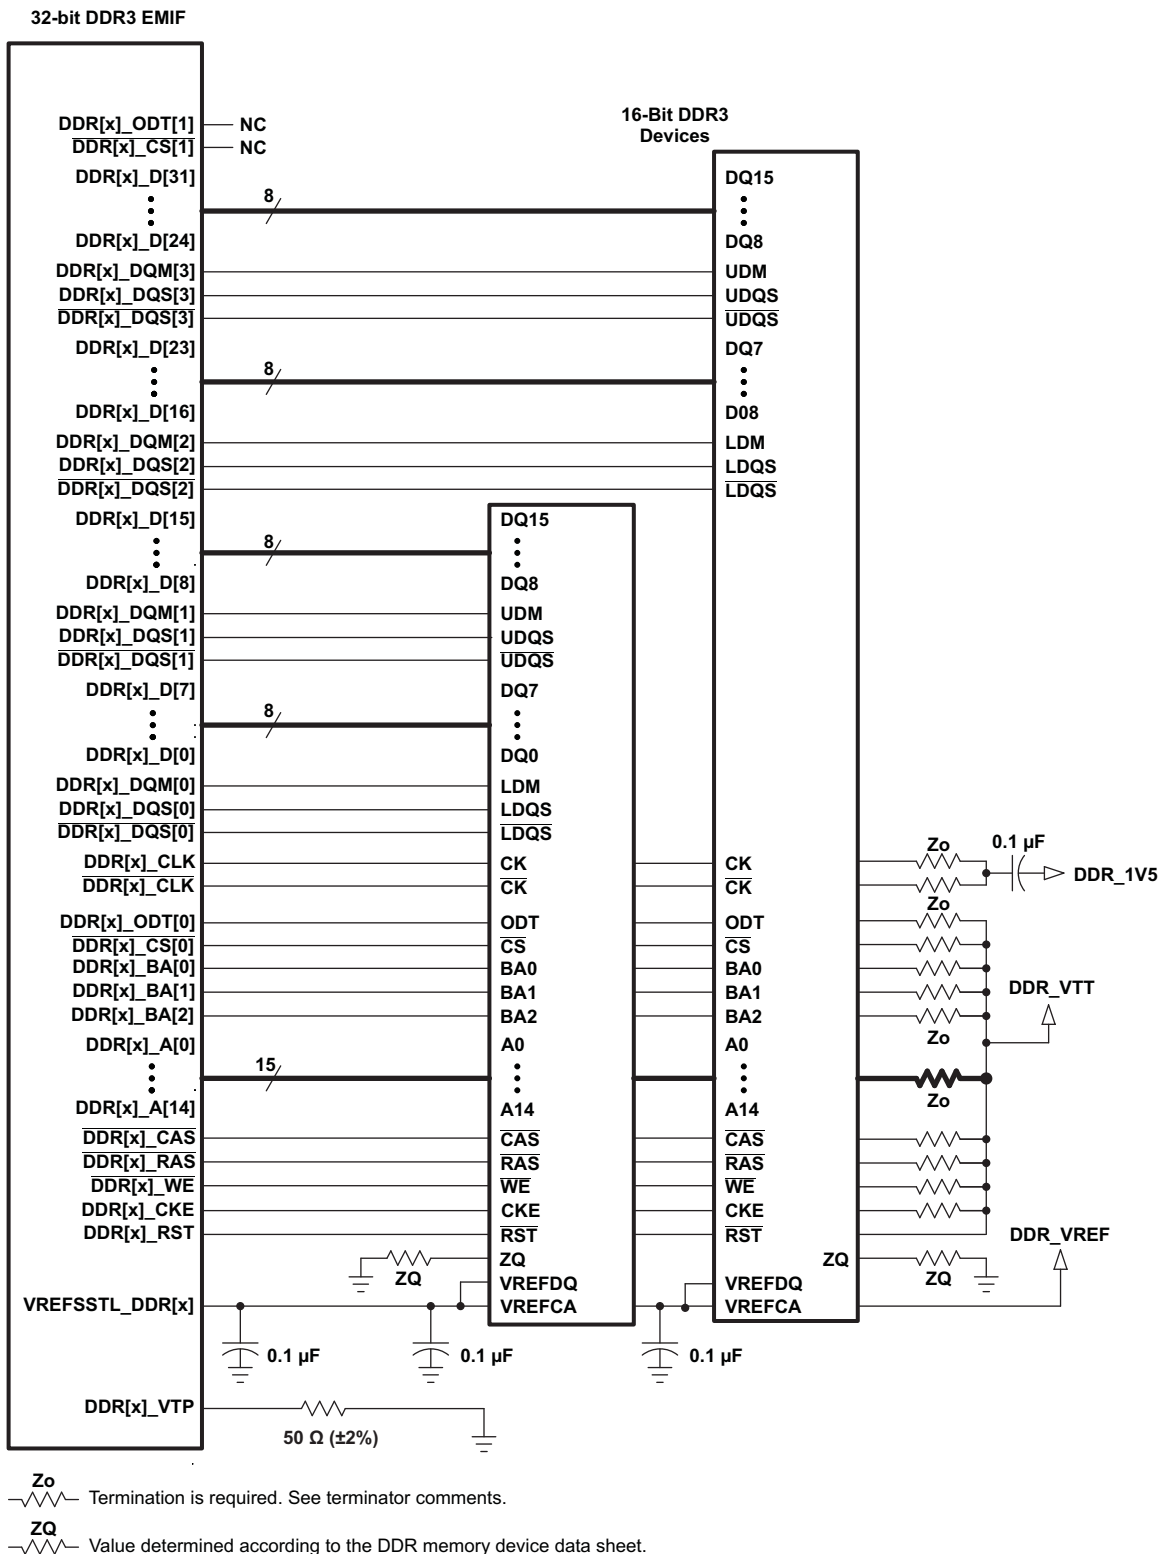
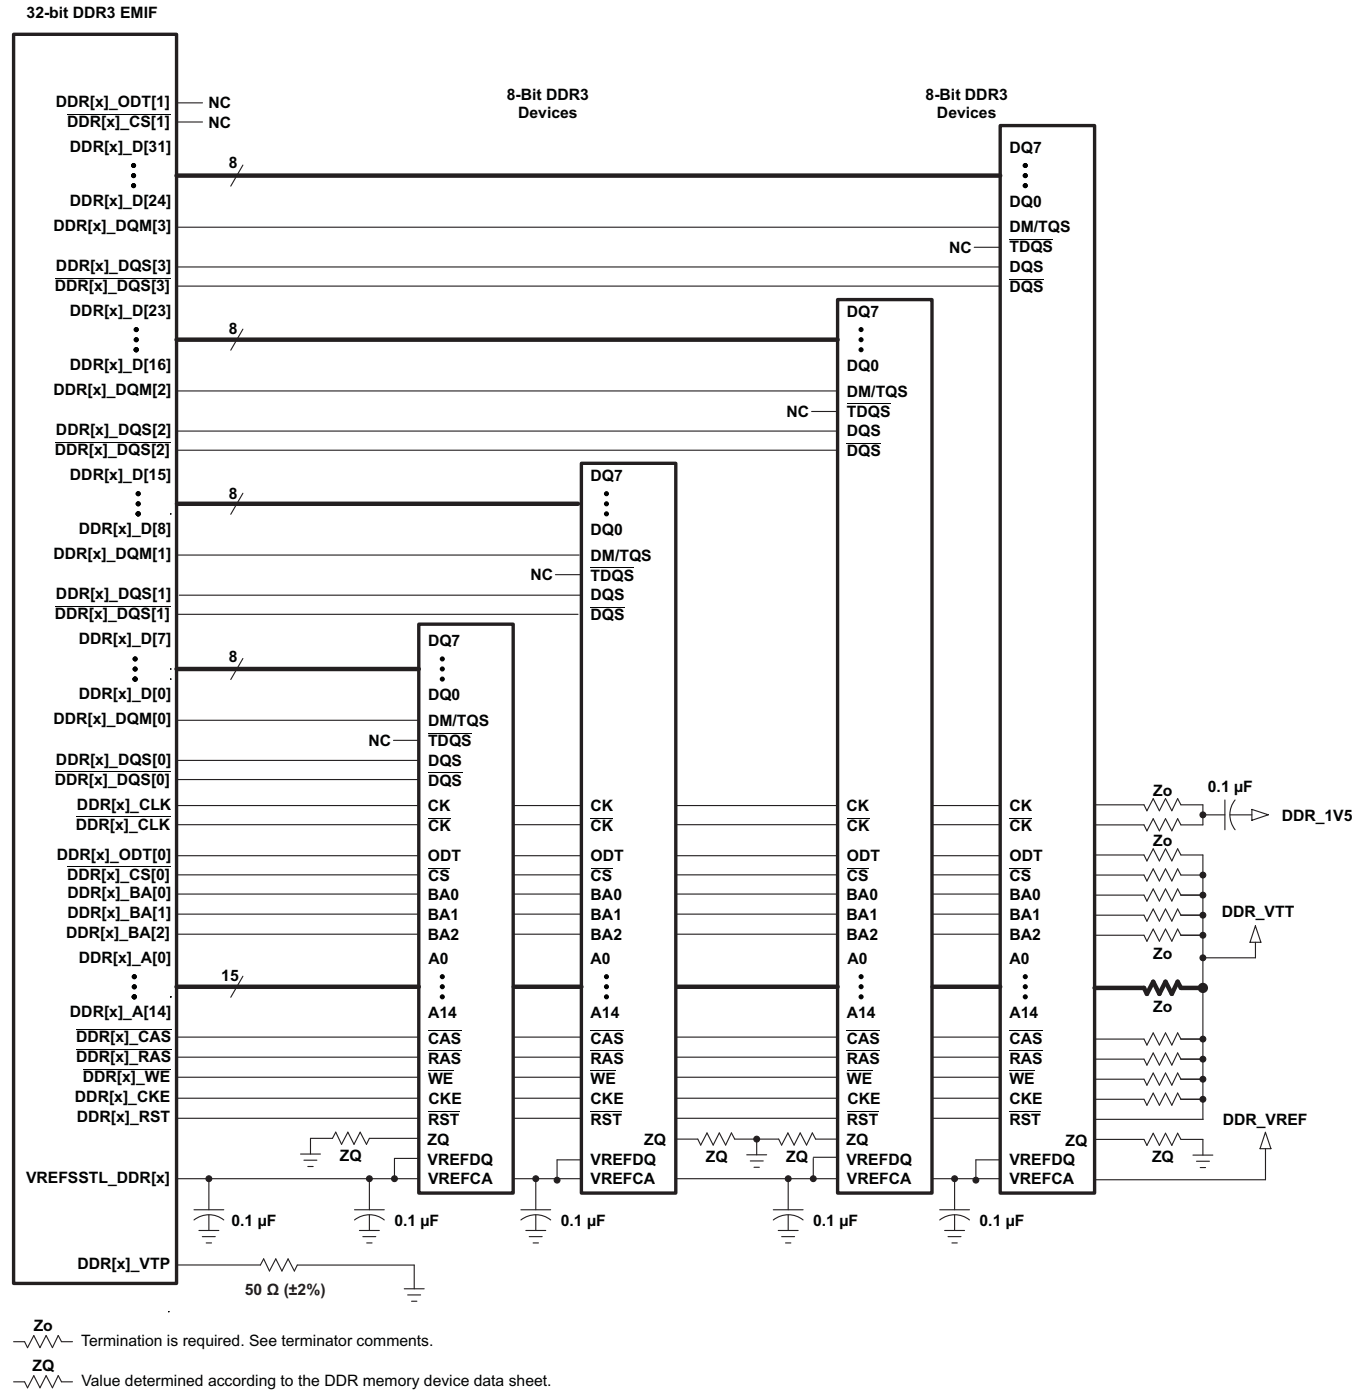

Figure 8-54. 32-Bit, One-Bank DDR3 Interface Schematic Using Two 16-Bit DDR3 Devices
Figure 8-55. 32-Bit, One-Bank DDR3 Interface Schematic Using Four 8-Bit DDR3 Devices
The DDR3 interface schematic varies, depending upon the width of the DDR3 devices used and the width of the bus used (16 or 32 bits). General connectivity is straightforward and very similar. 16-bit DDR devices look like two 8-bit devices. Figure 8-54 and Figure 8-55 show the schematic connections for 32-bit interfaces using x16 devices.
Note that the 16-bit wide interface schematic is practically identical to the 32-bit interface (see Figure 8-54 and Figure 8-55); only the high-word DDR memories are removed and the unused DQS inputs are tied off. The processor `DDR[x]_DQS[2]` and `DDR[x]_DQS[3]` pins should be pulled to the DDR supply via 1-k Ω resistors. Similarly, the `DDR[x]_DQS[2]` and `DDR[x]_DQS[3]` pins should be pulled to ground via 1-k Ω resistors.
(1) DDR3 speed grade depends on desired clock rate. Data rate is 2x the clock rate. For DDR3-800, the clock rate is 400 MHz.
(2) DDR3 devices with speed grades up to DDR3-1600 are supported; however, max clock rate will still be limited to 400 MHz as stated in *Switching Characteristics Over Recommended Operating Conditions for DDR3 Memory Controller*.
(3) For valid DDR3 device configurations and device counts, see Section 8.13.4.2.4, Figure 8-54, and Figure 8-55.